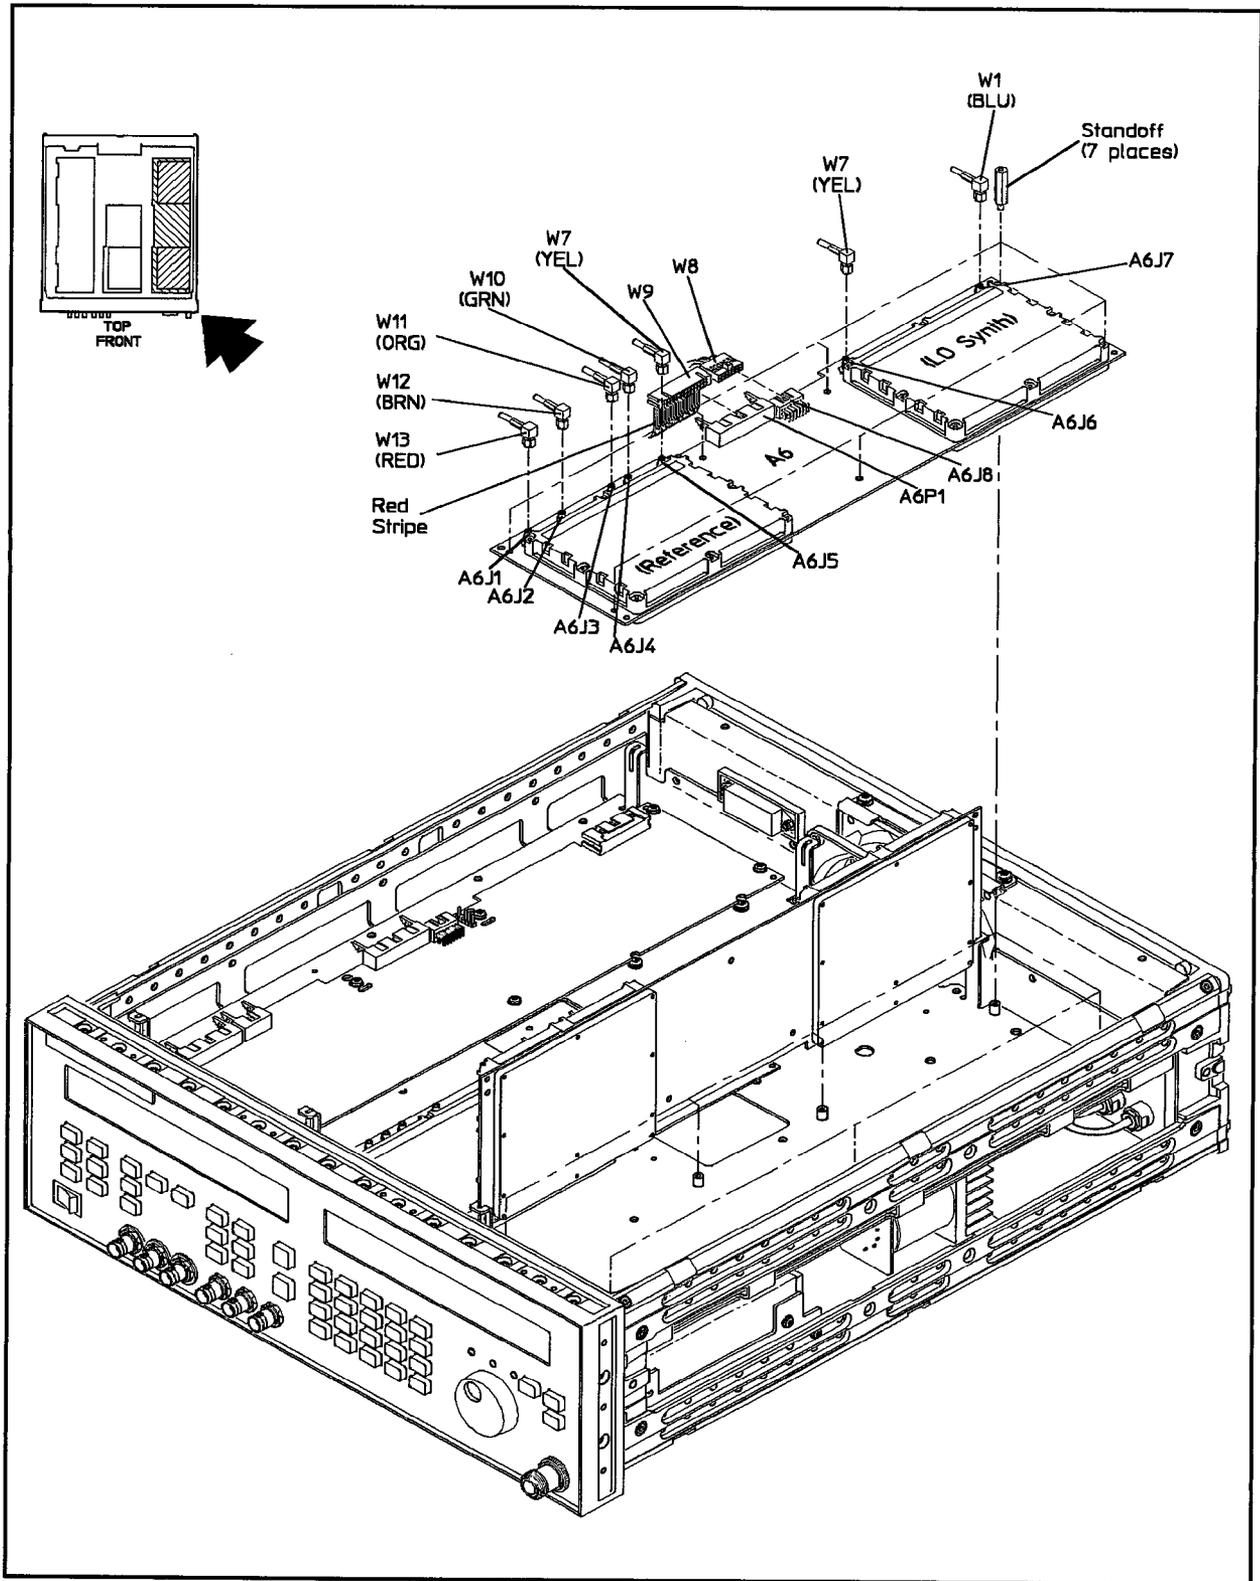

Figure 5-30. LO Synthesizer and Reference Board Removal
1. In the introduction to this chapter, refer to "Multi-wire Cables" and Figure 5-30. Then, disconnect the following cables:
2. Refer to "Flexible Coaxial Cables" and Figure 5-30. Then, disconnect the following cables using a 15/64 in end wrench: